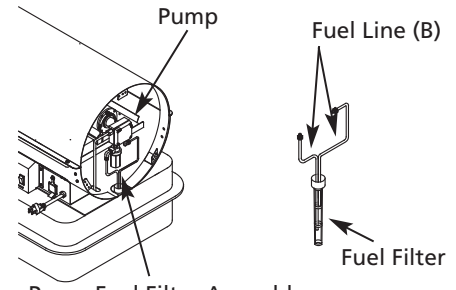

Figure 18 – Remove Tank Fuel Filter
- Disconnect fuel line (B) from pump and pump fuel filter assembly with 3/8" wrench (See Figure 18).
- Connect fuel lines (B) to pump and pump fuel filter assembly.